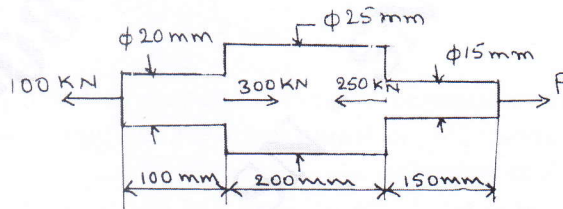

Fig.Q1(b)
- Find the stresses in various segments of the circular bar shown in Fig.Q1(b). Also find total elongation.  $E = 195 \text{ GPa}$ .